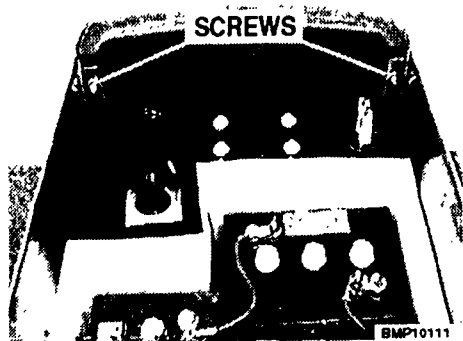
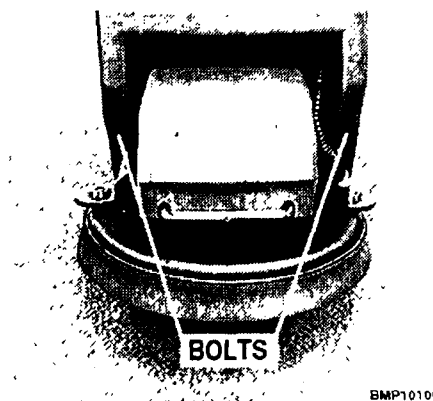

Figure 12
Figure 13
1. Remove the front cover by removing the two screws and the two bolts that fasten it to the frame. The two screws can be found at the top of the front cover, under the top lid (Figure 12). The two bolts can be found on the bottom of the front cover, near the corners (Figure 13). After removing the screws and bolts, the front cover can be removed.